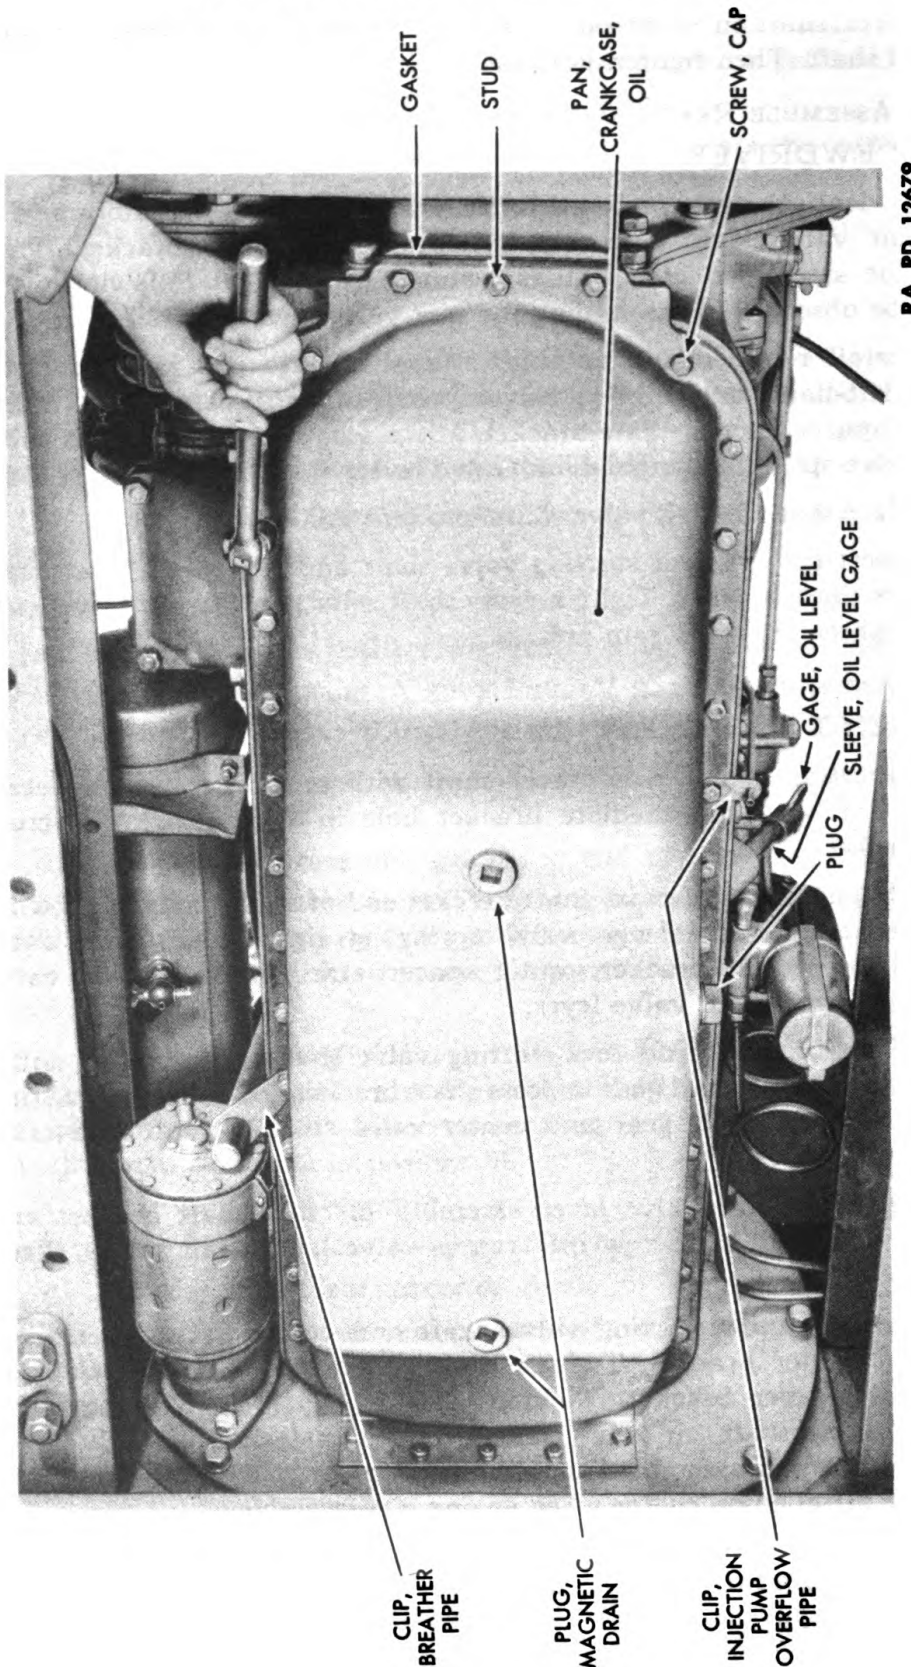

Figure 95—Crankcase Oil Pan Removal
a. Follow the procedure for installation of cylinder heads (par. 87, step b (3) through to the end of the paragraph).
98. CRANKCASE OIL PAN REMOVAL (fig. 95).
b. Procedure (fig. 95).
(1) INSTALL NEW CRANKCASE OIL PAN GASKET.